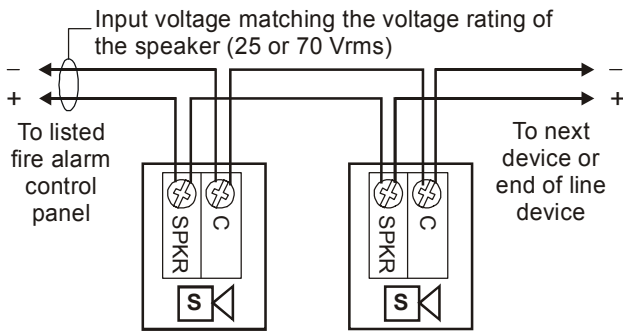

Figure 1: Wiring diagram
2. Connect the speaker terminals to the signal circuit field wiring. You must observe polarity for the unit to function properly. See Figure 1.